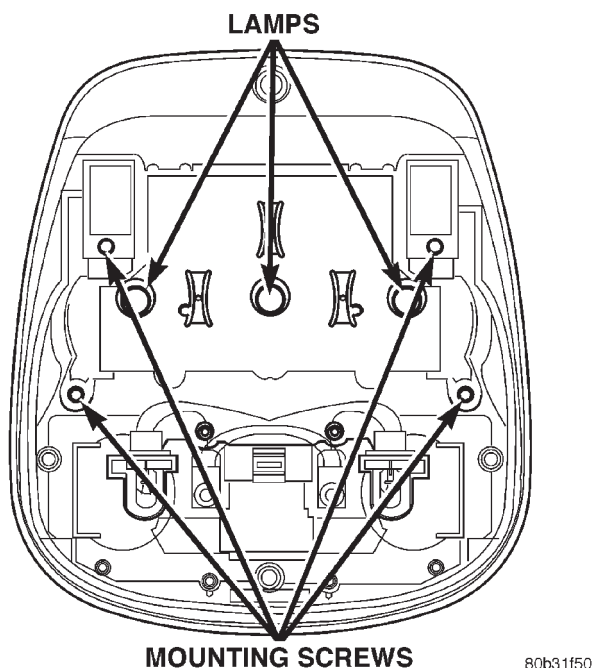

**Fig. 7 OTIS Removal**
- (1) Remove overhead console, refer to Console Removal and Installation procedures in this section.
- (2) Remove mounting screws and release the map lamp wire connector from the OTIS (Fig. 7).